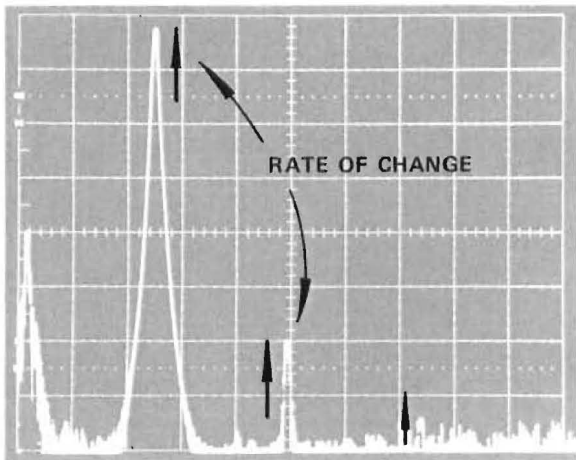

Figure 10 Distortion Crossover Point for Measuring Power
4. Watch the 2nd (2 kHz) and 3rd (3 kHz) harmonics of the 1 kHz tone. Increase the output level until the amplitude of the 2nd or 3rd harmonic increases faster than the 1 kHz tone. The level at which the harmonics (distortion) begin to increase radically (faster than the tone reference) is generally considered to be the **MAXIMUM UNDISTORTED POWER OUTPUT** (Figure 10).